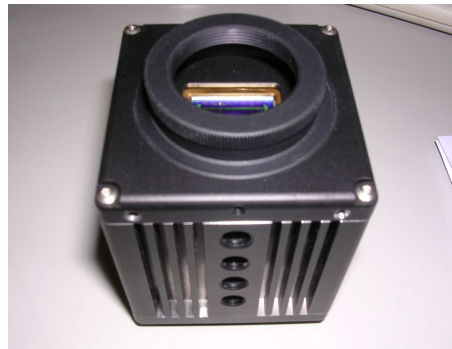

Figure 1. C-Mount lens adapter (p/n 1415-0213) mounted on enclosed KT camera
- 2.2 Shipped in the camera case will be an M42 to C-Mount adapter, part #1415-0213. Screw the M42 threads of this adapter into the M42 threads on the camera body until hand tight as shown in Figure 1.